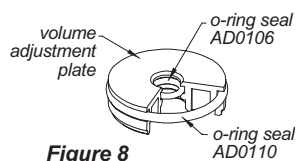

Figure 8
2. Insert the hooked tool into the volume adjustment plate's opening and carefully pull it upward, being careful not to damage the plate. Work from side to side not allowing the plate to become jammed within the shaft. Once you have removed the plate, you will find the rebound ramp and compression ramp loose inside the piston shaft. They were attached to the rods you removed in step 1. If you are simply repairing a leak, you can replace the seals on the plate as shown in figure 8, and move to step 4.